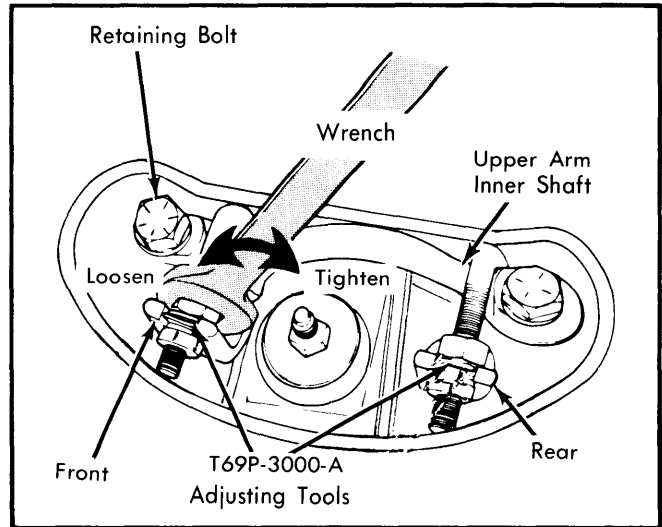

Fig. 12 Caster & Camber Adjustment
1) Install alignment tools (T69P-3000-A) into frame holes and tighten tools fingertight against upper arm inner shaft. Then, using a wrench, tighten an additional turn. Loosen bolts attaching upper arm inner shaft to frame. Firmly tap bolt heads to loosen lower assemblies. See Fig. 12.